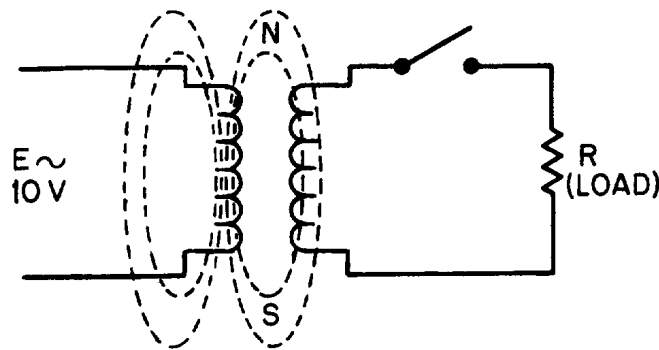

Figure 5-8.—Transformer under no-load conditions.
A no-load condition is said to exist when a voltage is applied to the primary, but no load is connected to the secondary, as illustrated by figure 5-8. Because of the open switch, there is no current flowing in the secondary winding. With the switch open and an ac voltage applied to the primary, there is, however, a very small amount of current called EXCITING CURRENT flowing in the primary. Essentially, what the exciting current does is "excite" the coil of the primary to create a magnetic field. The amount of exciting current is determined by three factors: (1) the amount of voltage applied (E_a), (2) the resistance (R) of the primary coil's wire and core losses, and (3) the X_L which is dependent on the frequency of the exciting current. These last two factors are controlled by transformer design.
To visualize how a voltage is induced into the secondary winding of a transformer, again refer to figure 5-8. As the exciting current flows through the primary, magnetic lines of force are generated. During the time current is increasing in the primary, magnetic lines of force expand outward from the primary and cut the secondary. As you remember, a voltage is induced into a coil when magnetic lines cut across it. Therefore, the voltage across the primary causes a voltage to be induced across the secondary.